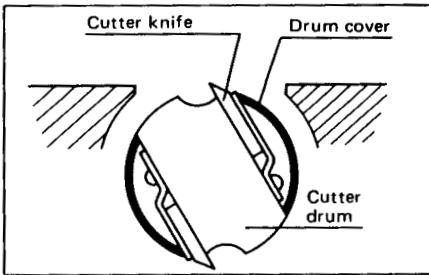

Fig. 7
- b. Remove the 8 hex bolts with the socket wrench provided, then take off the drum cover (cutter retaining plate). Use the end of the socket wrench handle to push the cutter out slightly. Raise the lever, once more making the drum stationary at the position seen in Fig. 7; then remove the cutter knife.
- a. At the position shown in Fig. 7, insert the knife so the holes are aligned with those on the drum. Set the wooden levellers on each end of the knife edge and press down on both ends until the main frame surface is contacted. The levellers should be pressed down just above the hex bolt holes on either end.